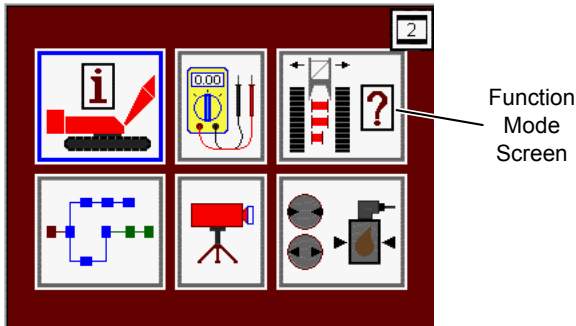

FIGURE 3-30
1. Enter the function mode in the main display (Figure 3-30).